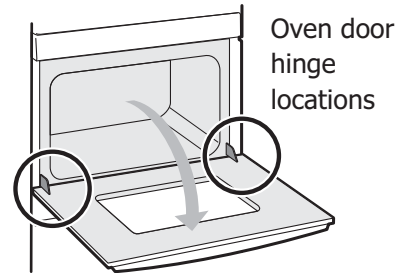

Figure 43: Door hinge location
1. Open oven door completely, horizontal with floor (See Figure 43).
3. Fully open the oven door, horizontal with floor (See Figure 43).